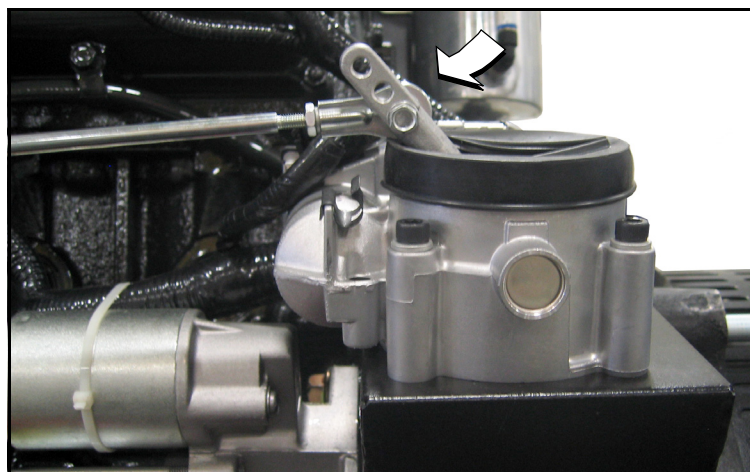

Figure 5-16. Lubricate Governor Rod Ends
1. Lubricate both ends of rod with a silicone spray. See Figure 5-16.